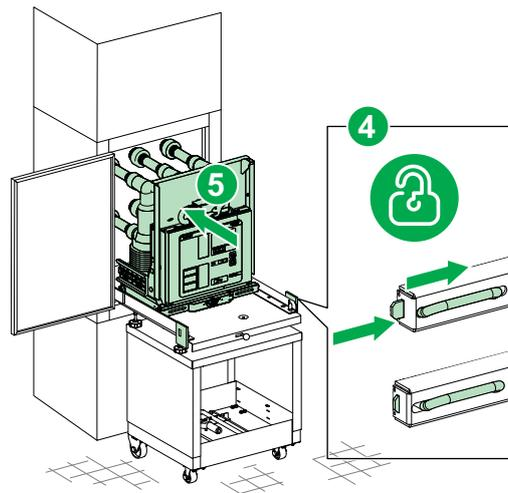

Figure 76
- Push the VCB by holding the locking handles, into the VCB cubicle to its test position. Refer to Figure 76.